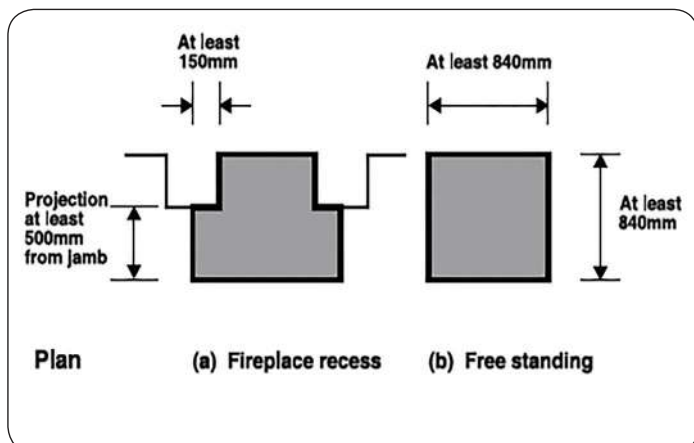
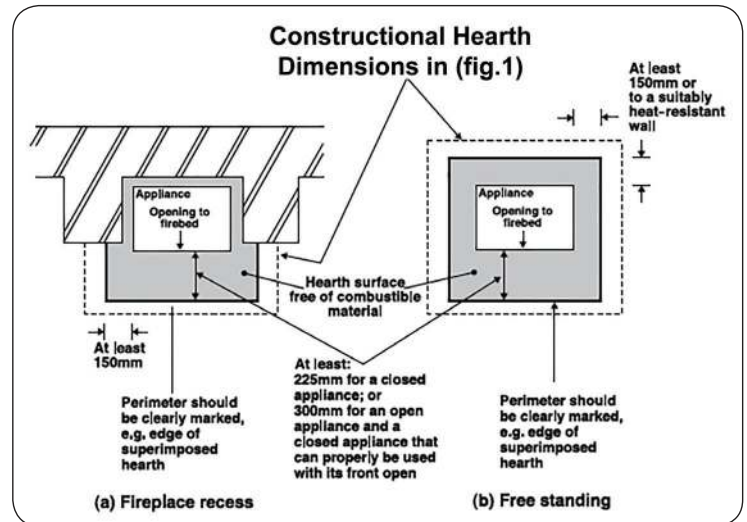

fig.1 Constructional Hearth Dimensions for Solid Fuel Appliances & Open Fires
fig.2 Non Combustible Hearth surrounding Solid Fuel Appliance
Hearths should be constructed from suitably robust materials & to appropriate dimensions. (fig.1) A way of making provision would be to adopt the guidelines outlined below & to provide a hearth appropriate to the temperatures that the appliance can create around it.
B. Constructional hearths in accordance with the guidelines outlined. (fig.2) Constructional Hearths should have dimensions as outlined in figure 1 above. They should be made of solid, non-combustible such as concrete or masonry, at least 125mm thick, including the thickness of any non-combustible floor and/or decorative surface.